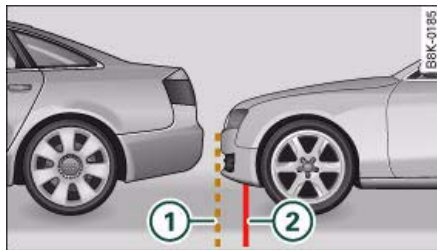

Fig. 159 Actual
If you, for example, reverse towards a vehicle, the orientation lines and area markings in the MMI display appear to be overlapping onto the vehicle behind ⇒ page 142, fig. 158. In the example shown in the picture the red line in the MMI display is directly on the bumper of the vehicle behind. In actual fact, however, the red line ② ⇒ page 142, fig. 159 is not making contact with the bumper but has already moved **underneath** the bumper. The actual distance to the vehicle behind (broken line ①) is already much less than 40 cm. You must also include the bumper of your own vehicle in the calculation of the distance ⇒ ⚠.